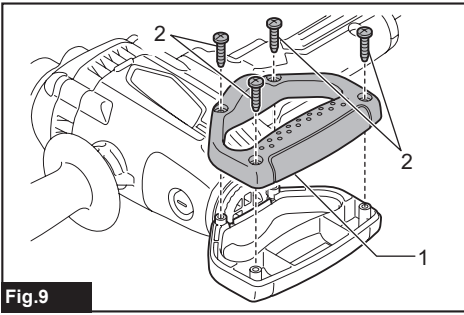

Fig.9
► **Fig.9:** 1. Rear handle 2. Screw